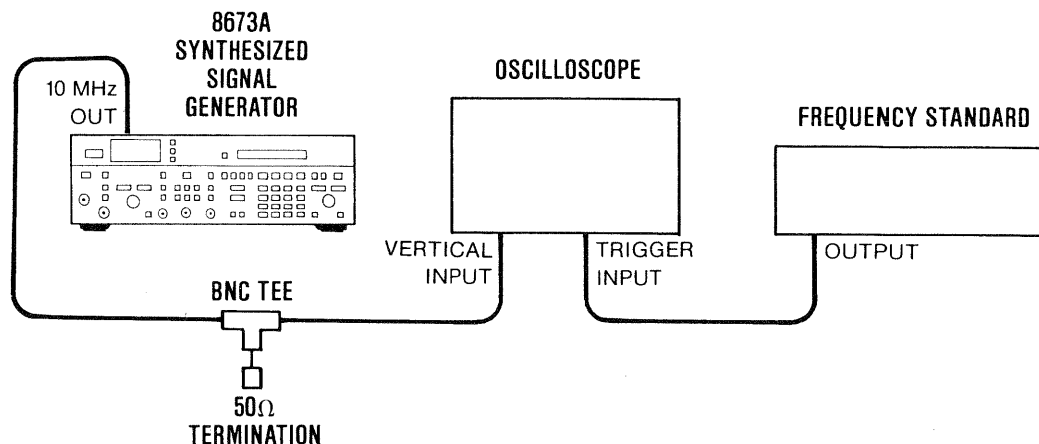

Figure 5-3. 10 MHz Reference Oscillator Adjustment Test Setup
2. Connect the equipment as shown in Figure 5-3.